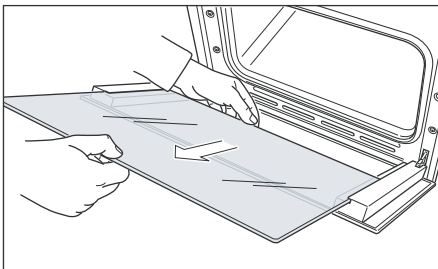

Fig. 25e
- Gently pull out the inner pane of glass (Fig. 25e).